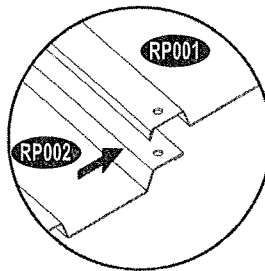

Fig. 3
**Note** Make sure overlapping of roof panels must follow the figure shown. (See fig. 3). Use other type of screws where mentioned.